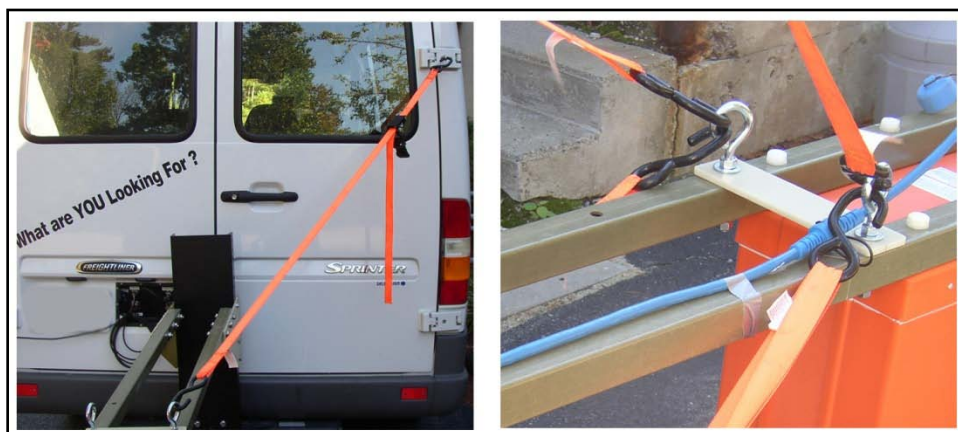

Figure 14: Attach straps.
Locate a secure attachment point on your vehicle for the four (4) ratchet straps. These straps will prevent unnecessary antenna bounce while you are driving. Position the attachment points so that two straps should exert upward force and two should exert downward force. You can attach the straps to the eye bolts on the antenna rail spacer (Figure 14). Make sure that the antenna height is approximately 18" if measured from the ground to the antenna bottom. Take care to not over-tighten the straps as this will cause the antenna to pitch out of level.